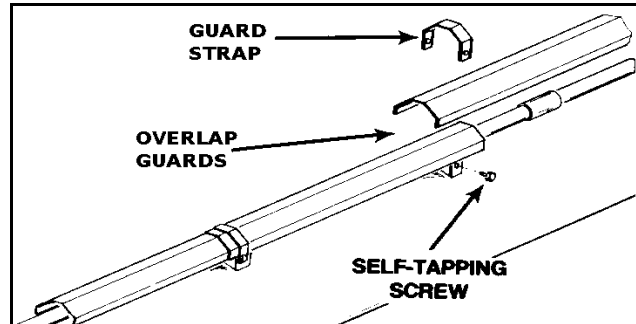

Figure 3.9
2. To install remainder of the driveshaft shielding, work from the bottom up. Shields should overlap at bearing support brackets (Figure 3.9).